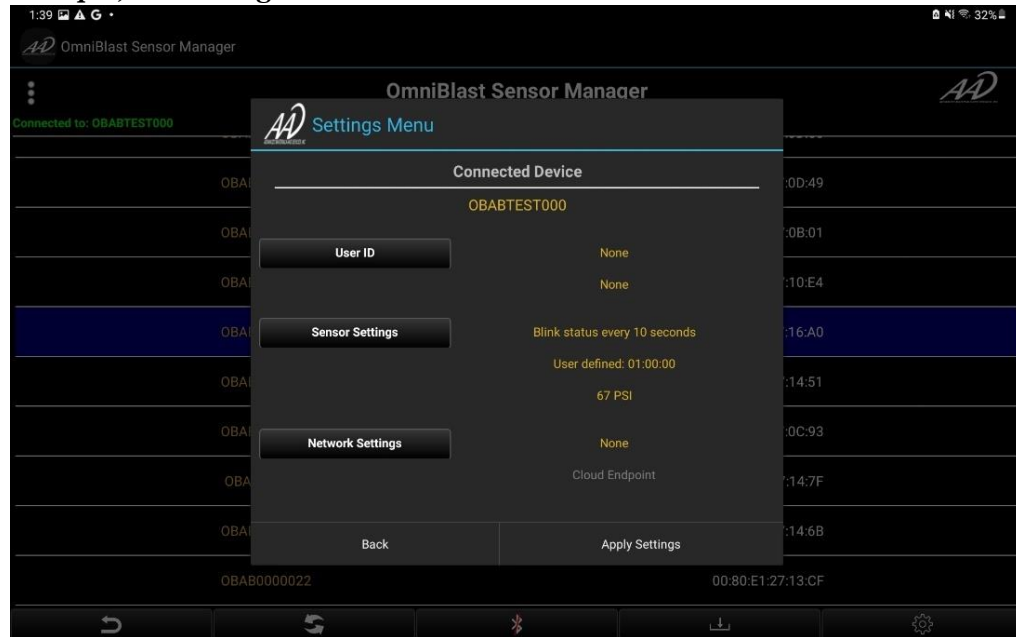

Figure 11. Settings menu of a sensor connected to the OSM.
- e. **Settings:** When connected to a sensor, the settings button can be clicked to apply settings. **The settings menu will popup (Figure 11).** *Note: All settings can remain unchanged or “unset” and it will not affect the sensor’s operation. For example, not setting the User Id will list “None” in the event headers.*